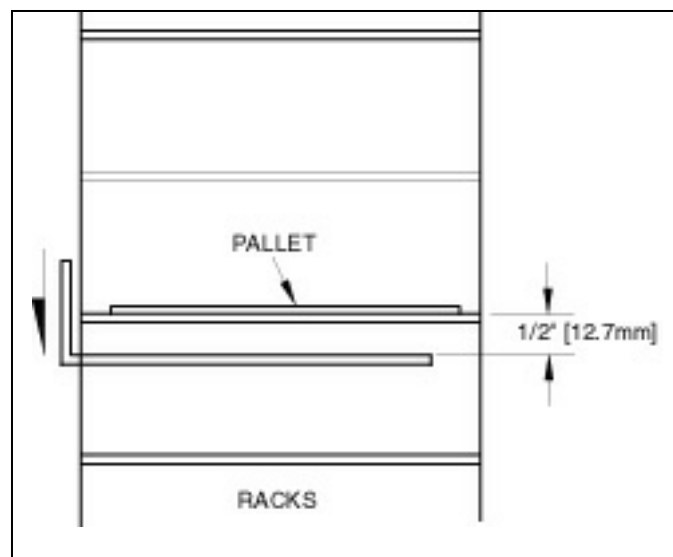

Figure 2.14 SWITCH LS-23 ADJUSTMENT.
2.1.7.7 Manually move the spade (see section 4.2) inside the rack bay. Then move spade up and down until top of empty spade is 1/2" [12.7mm] below pallet laying on rack shelf (see figure 2.14). Then move cam until switch LS-23 is actuated (screen will indicate that switch has been tripped)